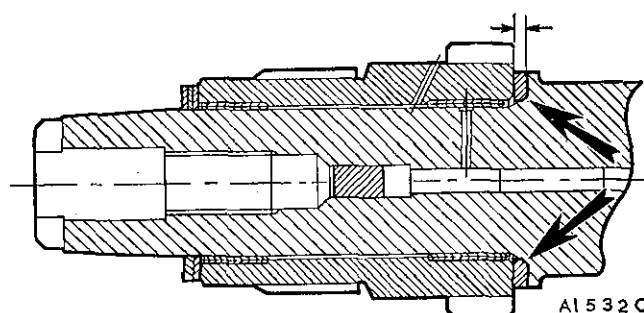

Fig. A.16
- (6) Check the primary gear running clearance (Fig. A.16). Fit the inner thrust washer with its chamfered bore against the crankshaft flange.
- (7) Renew the crankshaft primary gear oil seal if it shows signs of damage or oil leakage, using Service tool 18G 134 and adaptor 18G 134 BC.